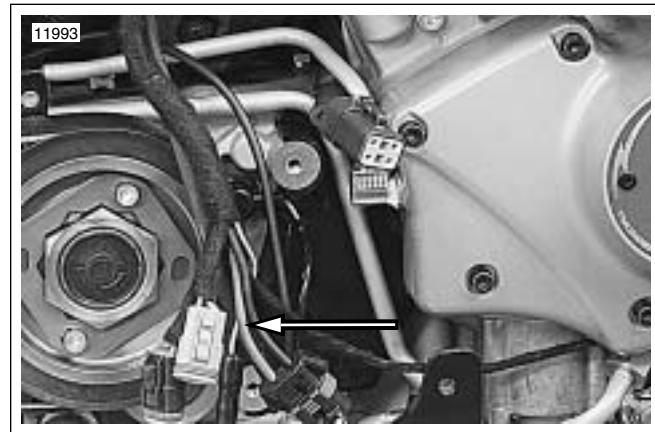

Figure 7-28. Positive Regulator Cable (red wire)
- b. See Figure 7-28. Place load tester induction pickup over positive regulator cable.
1. See Figure 7-28. After removing the load, read the load tester voltage meter.